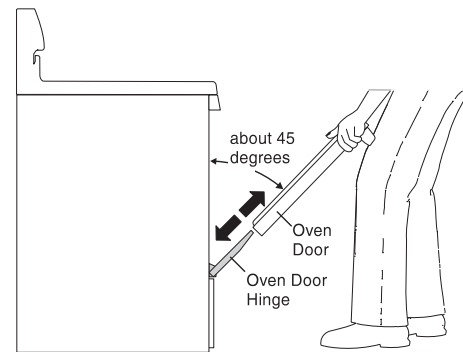

Fig. 3
5. Grasp oven door firmly on both sides and slide door up and off hinges at the same angle (See Fig. 3).
2. Hold door at the sides near the top while resting the lower front of door on your knee. Insert the door channels at the bottom of door over the door hinges, (See Fig. 3).